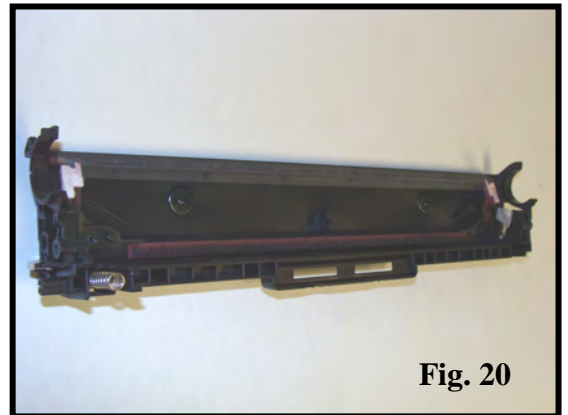

Fig. 20
20. Use compressed air to remove all waste toner from the waste section. Clean all foams and recovery blade (Fig. 20).